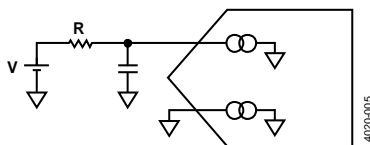

Figure 5. Pseudo Differential/Single-Ended ADC
- One of the analog inputs connects to a low impedance source (see Figure 5). The error is defined as